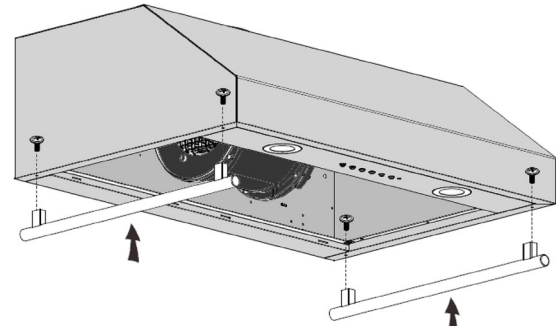

Figure 12
- Align bar to the mounting holes and use M4 × 12 mm screws to fix the bar on the hood (Figure 12).